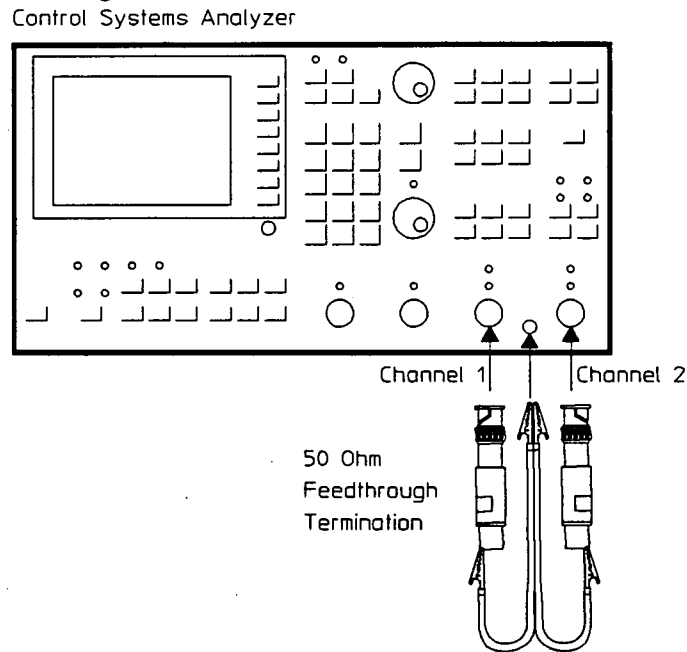

Figure 7-21. Auto-Range Failure Test Three Setup
3. Terminate both input channels by using two 50 Ω feedthrough terminations and ground the BNC shells as shown in figure 7-21.